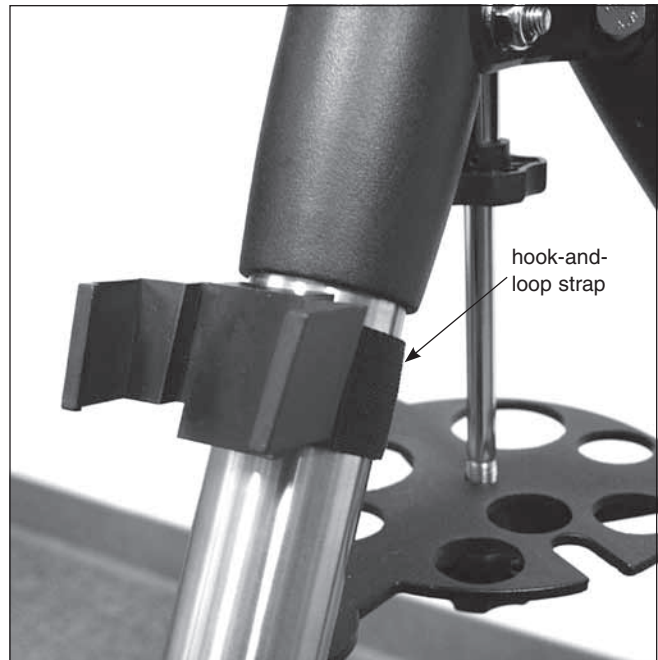

Figure 13. Installing the GoTo hand controller bracket
1. Strap the included hand controller bracket to a tripod leg above the tripod center support tray using the hook-and-loop strap, as shown in **Figure 13**.